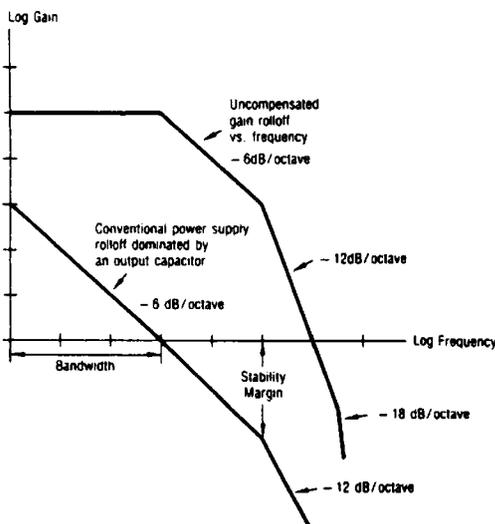

Figure 1: Gain-frequency plot, conventional power supply showing narrow bandwidth, large stability margin
2. A conventional power supply responds slowly to input signals and its dynamic stability is governed by the large output capacitor. As a result, its unity gain crossover frequency is at a very low frequency and the phase margin (a measure of stability) is very large. A conventional power supply therefore represents a very stable closed-loop system even with reactive loads, since any additional phase-shift introduced by the load is at a frequency far away from the unity gain crossover frequency (See Fig. 1).